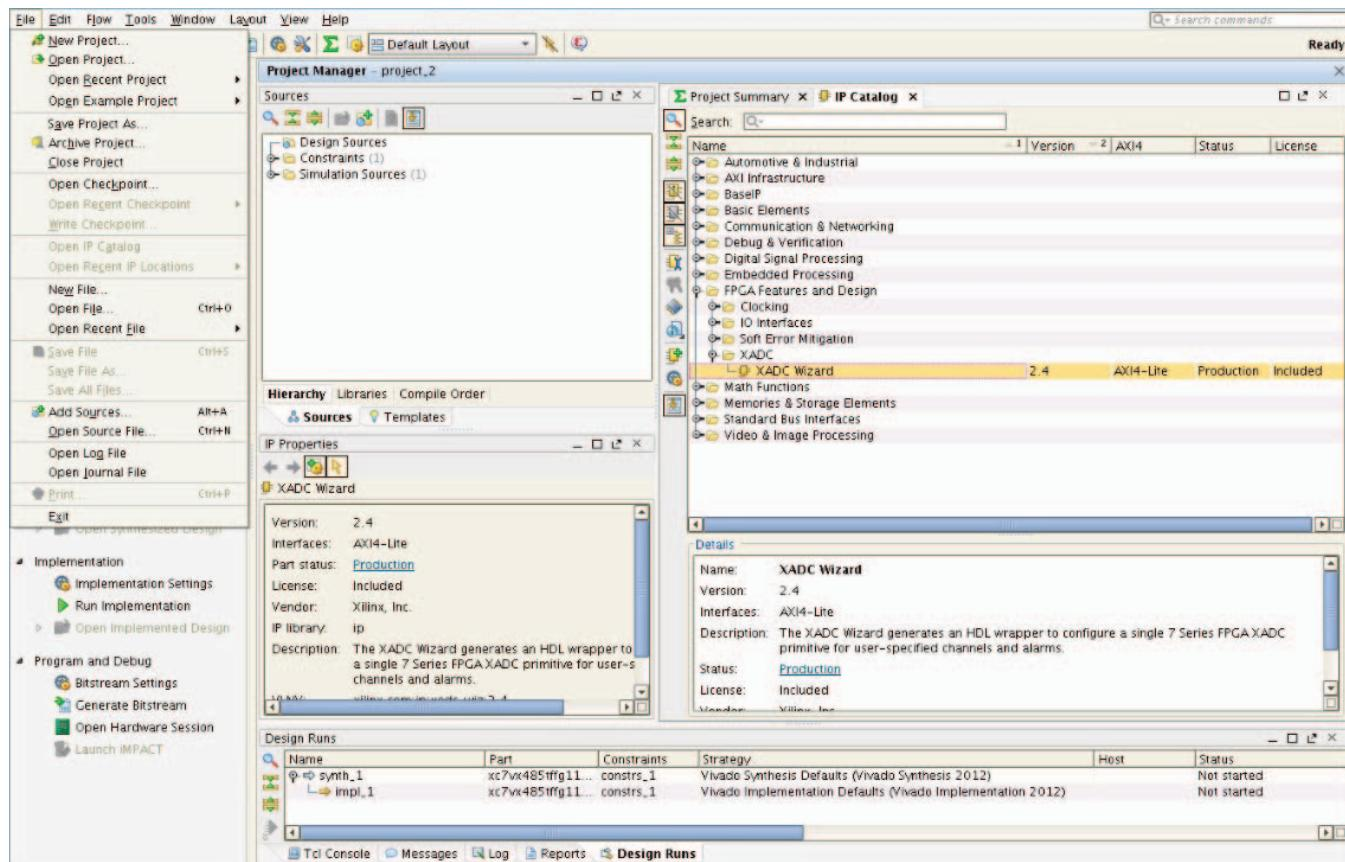

Figure 4-1: New Project
3. Choose **File > New Project** (Figure 4-1).
`/FPGA Features and Design/XADC`. (see Figure 4-1)